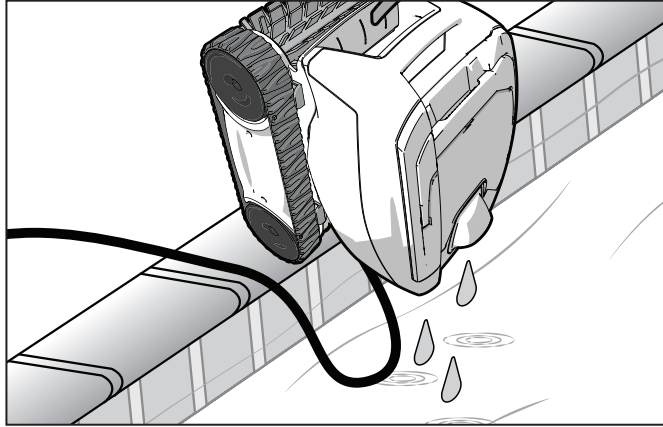

Figure 16. Hold Vertically to Drain Water
2. Hold the cleaner vertically to drain (Figure 16).